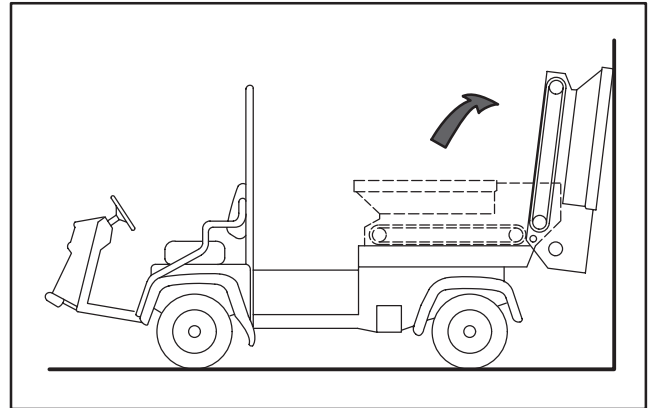

Figure 28
- Pivot hopper rearward and lean against wall, ladder, etc. Do not allow hopper to rest against rear of machine as damage may result to brush or hydraulic couplers (Fig. 28).
**Important** Make sure hopper is pivoted beyond center and/or secured to wall or post to prevent it from accidentally falling on work area (Fig. 28).